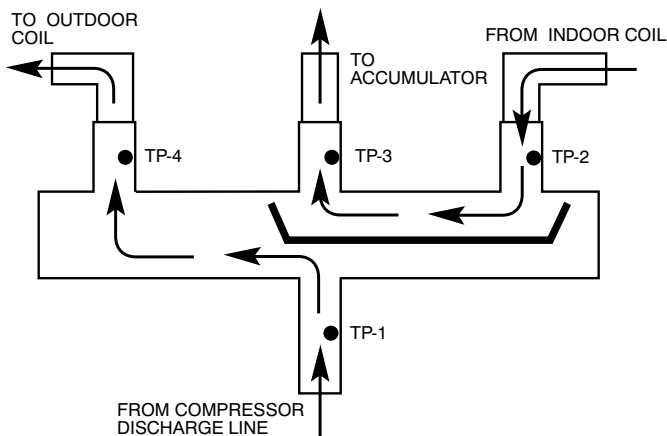
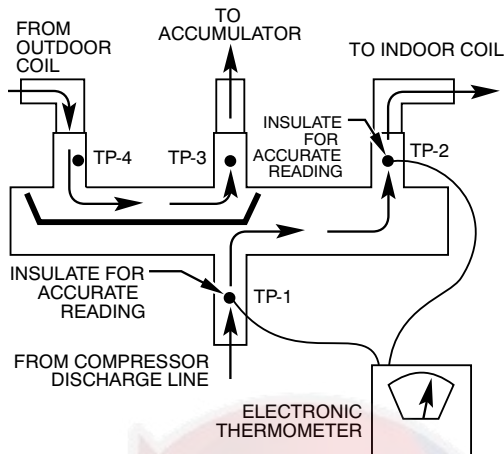

Fig. 20 – Reversing Valve (Cooling Mode or Defrost Mode, Solenoid Energized)
Fig. 21 – Reversing Valve (Heating Mode, Solenoid De-Energized) ^{A10188}
Using a remote measuring device, check inlet and outlet line temperatures. DO NOT touch lines. If reversing valve is operating normally, inlet and outlet temperatures on appropriate lines should be close to each other. Any difference would be due to heat loss or gain across valve body. Temperatures are best checked with a remote reading electronic-type thermometer with multiple probes. Route thermocouple leads to inside of coil area through service valve mounting plate area underneath coil. Fig. 20 and Fig. 21 show test points (TP) on reversing valve for recording temperatures. Insulate points for more accurate reading.